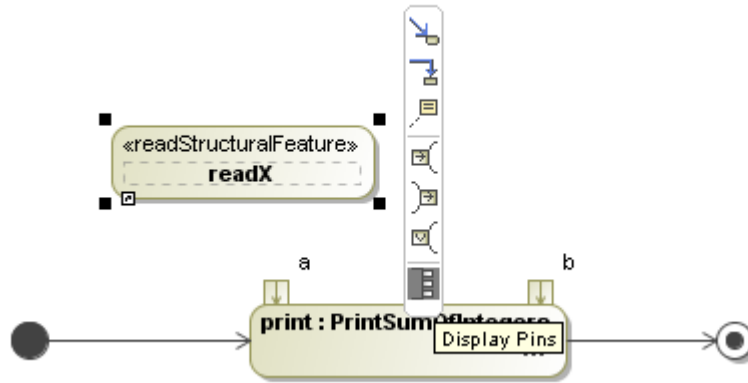
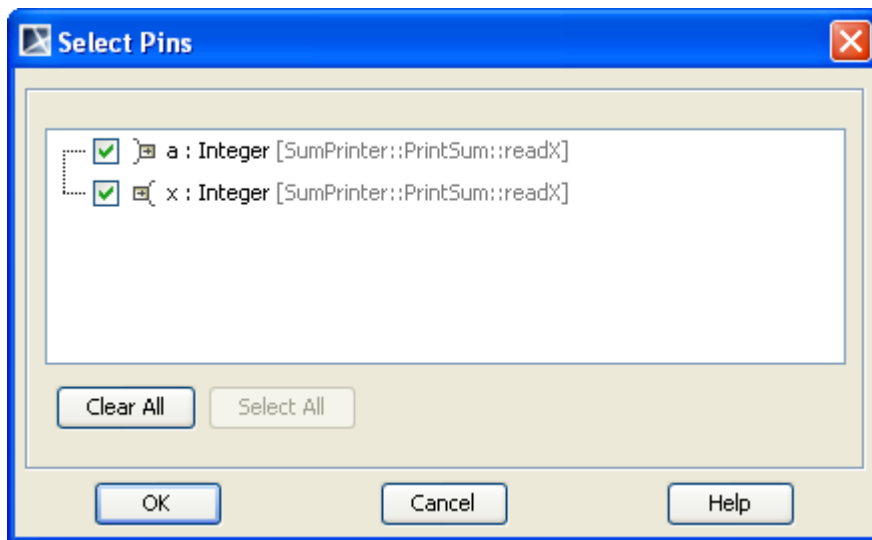

Figure 64 -- Pins of the Selected Action on Smart Manipulator
Figure 65 -- Selecting in the Select Pins Dialog
11. Click the **readX** action on the activity diagram and select **Display Pins** on the smart manipulator (Figure 64). The **Select Pin** dialog will open (Figure 65).